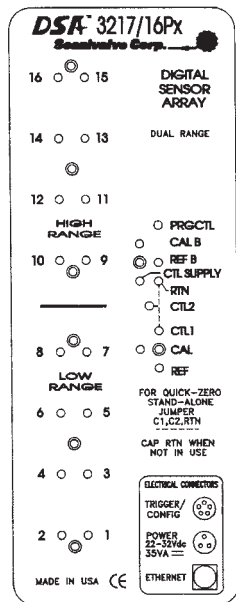

FIGURE 2.2 - DSA3217/16Px DUAL RANGE TOP PANEL
The DSA3217/16Px module is available as a dual-range module, offering eight (8) channels of one pressure range and eight (8) channels of a different pressure range. Like a standard DSA3217, each group of eight (8) transducers share a common calibration valve and a common reference manifold. However, in dual range modules the reference manifolds and the calibration valves are not tied together and separate reference and calibration ports are provided on the top of the module. They are labeled CAL, CAL B, REF and REF B. Figure 2.2 depicts the top panel of a dual range DSA3217/16Px module.